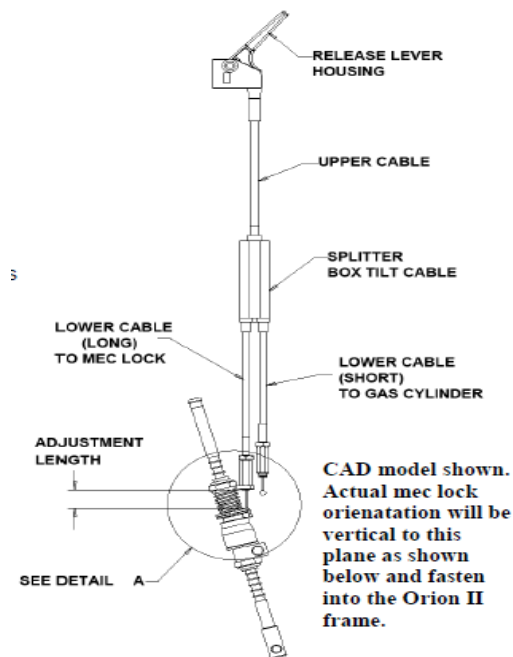
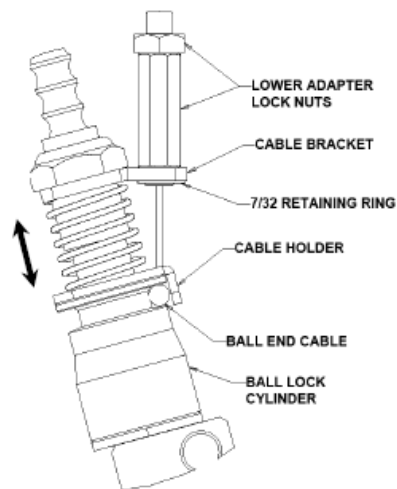

Figure 28
Figure 29
Adjusting recline cable [Figure 28, Figure 29]
4. Push the cable holder down to compress the spring and place the ball end of the cable through the slotted arm of the cable holder and into the groove of the ball lock cylinder as shown in Figure 28.
5. Release the cable holder to keep the ball end cable in place as shown in Figure 29.